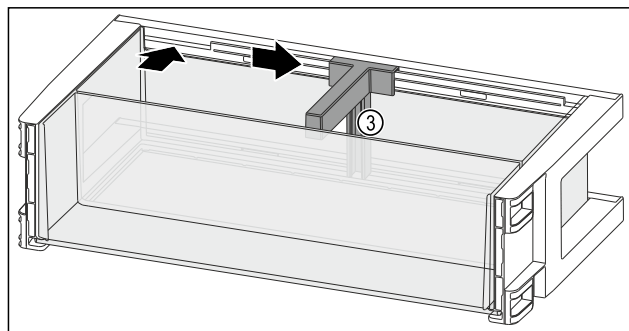

Fig. 123
- Insert the bottle holder Fig. 123 (3) into the recess.
- Push the bottle holder Fig. 123 (3) to the side into the desired position.